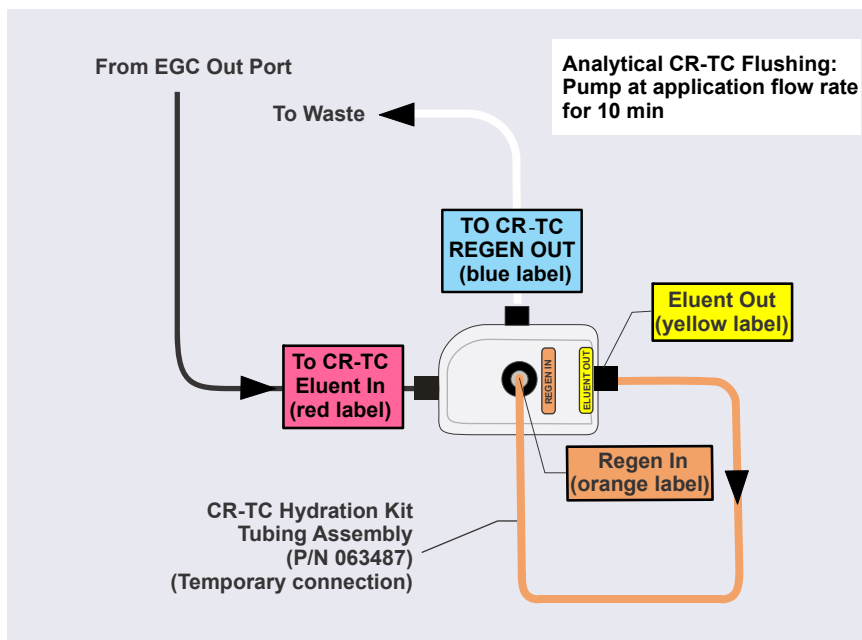

Figure 9-28. Plumbing for Hydrating an Analytical Dionex CR-TC
- b. Refer to Figure 9-28 to plumb the four ports on the Dionex CR-TC.